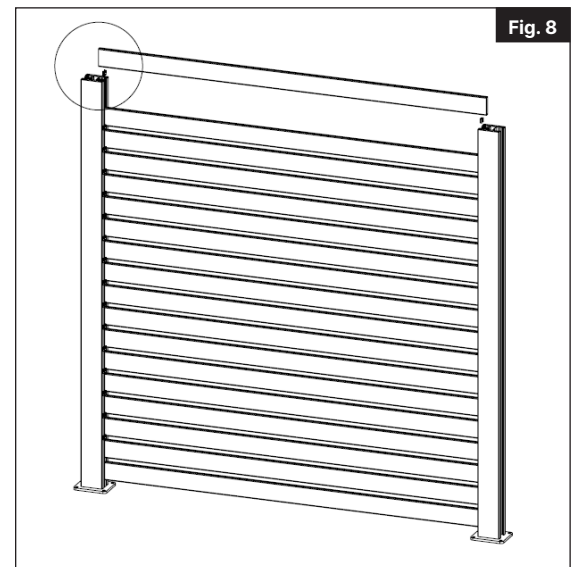

Fig. 8
Install the remaining boards alternating spacers and infill boards until all boards have been installed (Fig. 8).
8. On top of the last board you will place the smaller L bracket against the post insert and using #10^{3⁄4}" screws provided you will screw the bracket to the board then at a 45 degree angle you will screw the bracket to the post insert (Fig. 8).